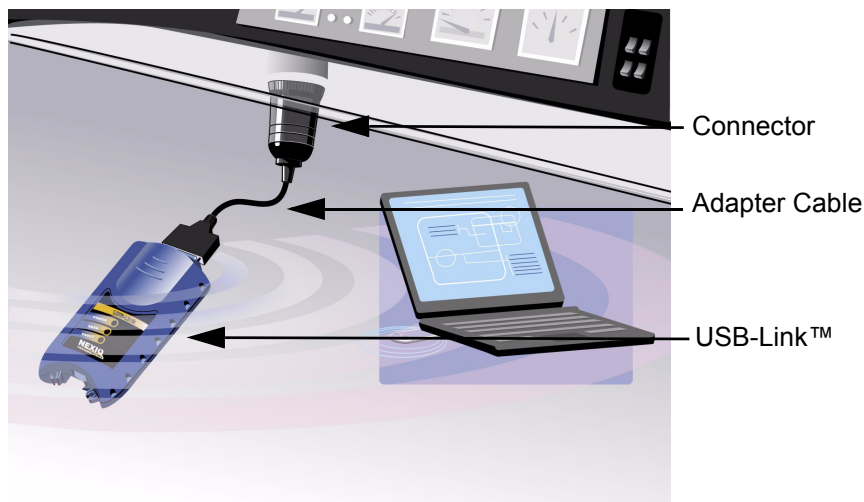

Figure 3.1 *USB-Link™-to-Vehicle Connection*
- 1 Connect the DB15 male end of the appropriate adapter cable to the USB-Link™ (see Figure 3.1).